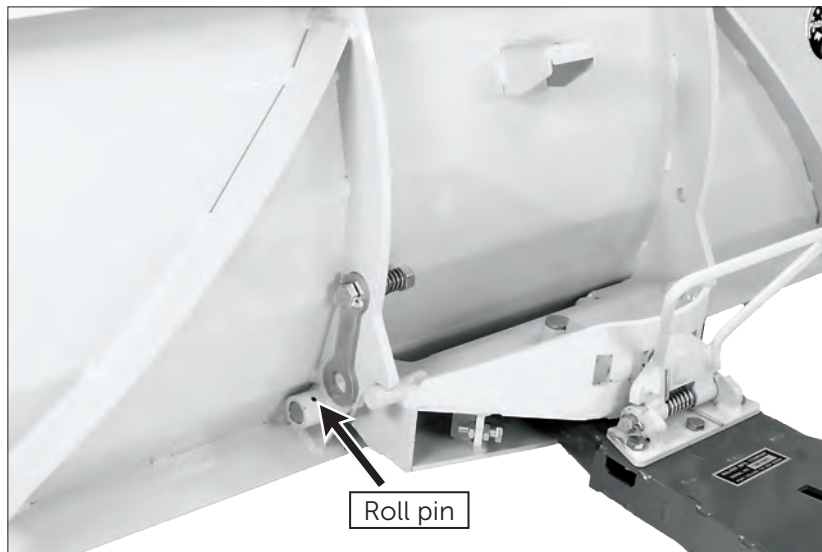

Figure 1.1
4. After ensuring proper alignment of the roll pin guides, use a hammer to tap roll pin into place as shown in figure 1.1.